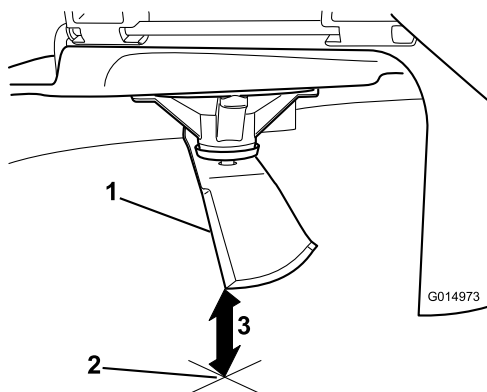

Figure 94
3. Measure from the tip of the blade to the flat surface (Figure 94).